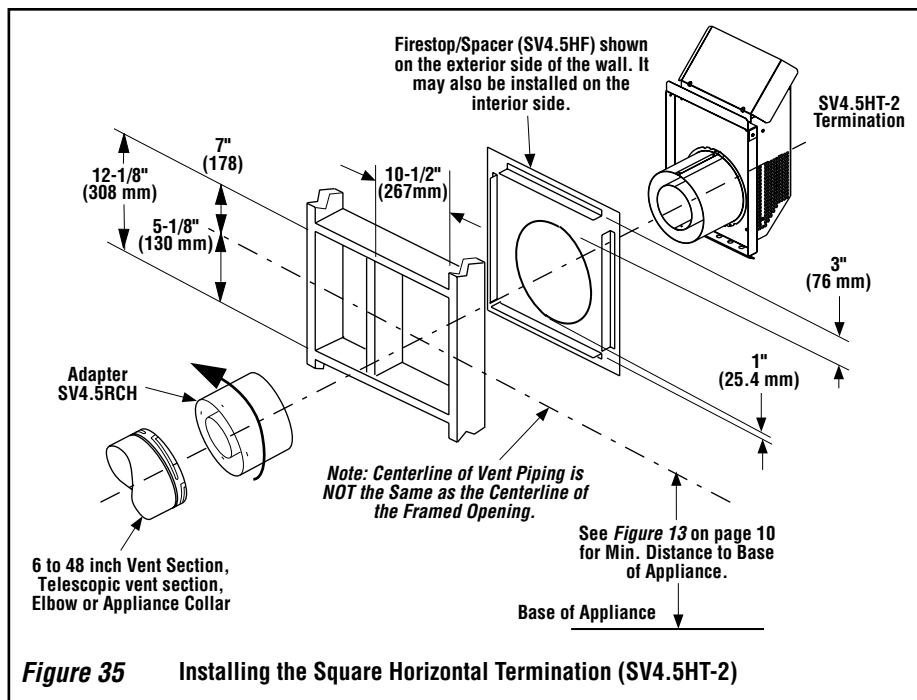

Figure 35 Installing the Square Horizontal Termination (SV4.5HT-2)
K. Attach termination adapter - Attach the adapter (adapter - SV4.5RCH - provided with the termination) to the vent section or telescoping vent section, elbow or appliance collar as shown in **Figure 35** in the same manner as any SV4.5 vent component (refer to **Step E**).
L. Install Firestop/Spacer at exterior wall - When using the **square** termination, install SV4.5HF (Secure Vent), SF4.5HF (Secure Flex) Firestop/Spacer over the opening at the exterior side of the framing, long side up, with the 3 inch spacer clearance at the top as shown in **Figure 35**, and nail into place.